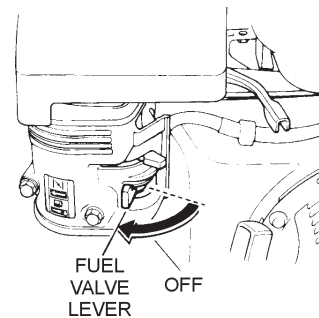

Figure 24. Fuel Valve Lever (OFF)
- Place the **fuel shut-off lever** (Figure 24) in the OFF position.